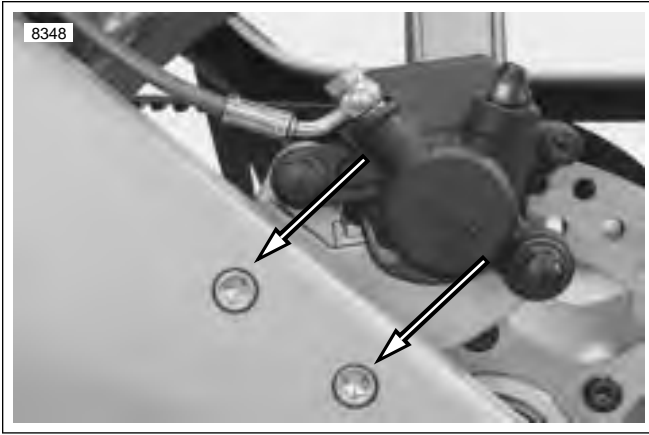

Figure 2-27. Rear Brake Caliper Carrier Fasteners
10. See Figure 2-27. Install caliper carrier and tighten fastener to 24-26 ft-lbs (32-35 Nm). See 2.15 REAR BRAKE CALIPER.